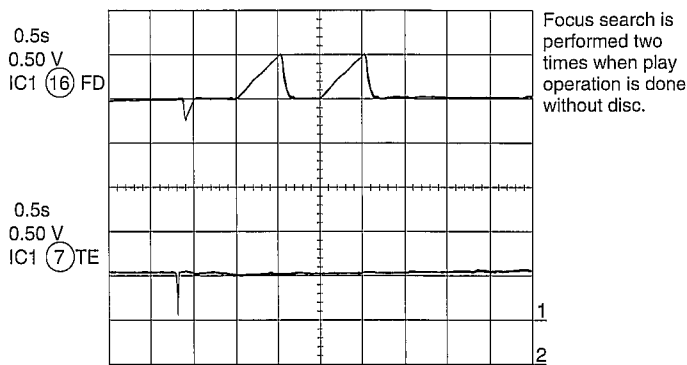

Figure 35
Does the output waveform of IC1(16)(FD) match that shown in Fig. 35?